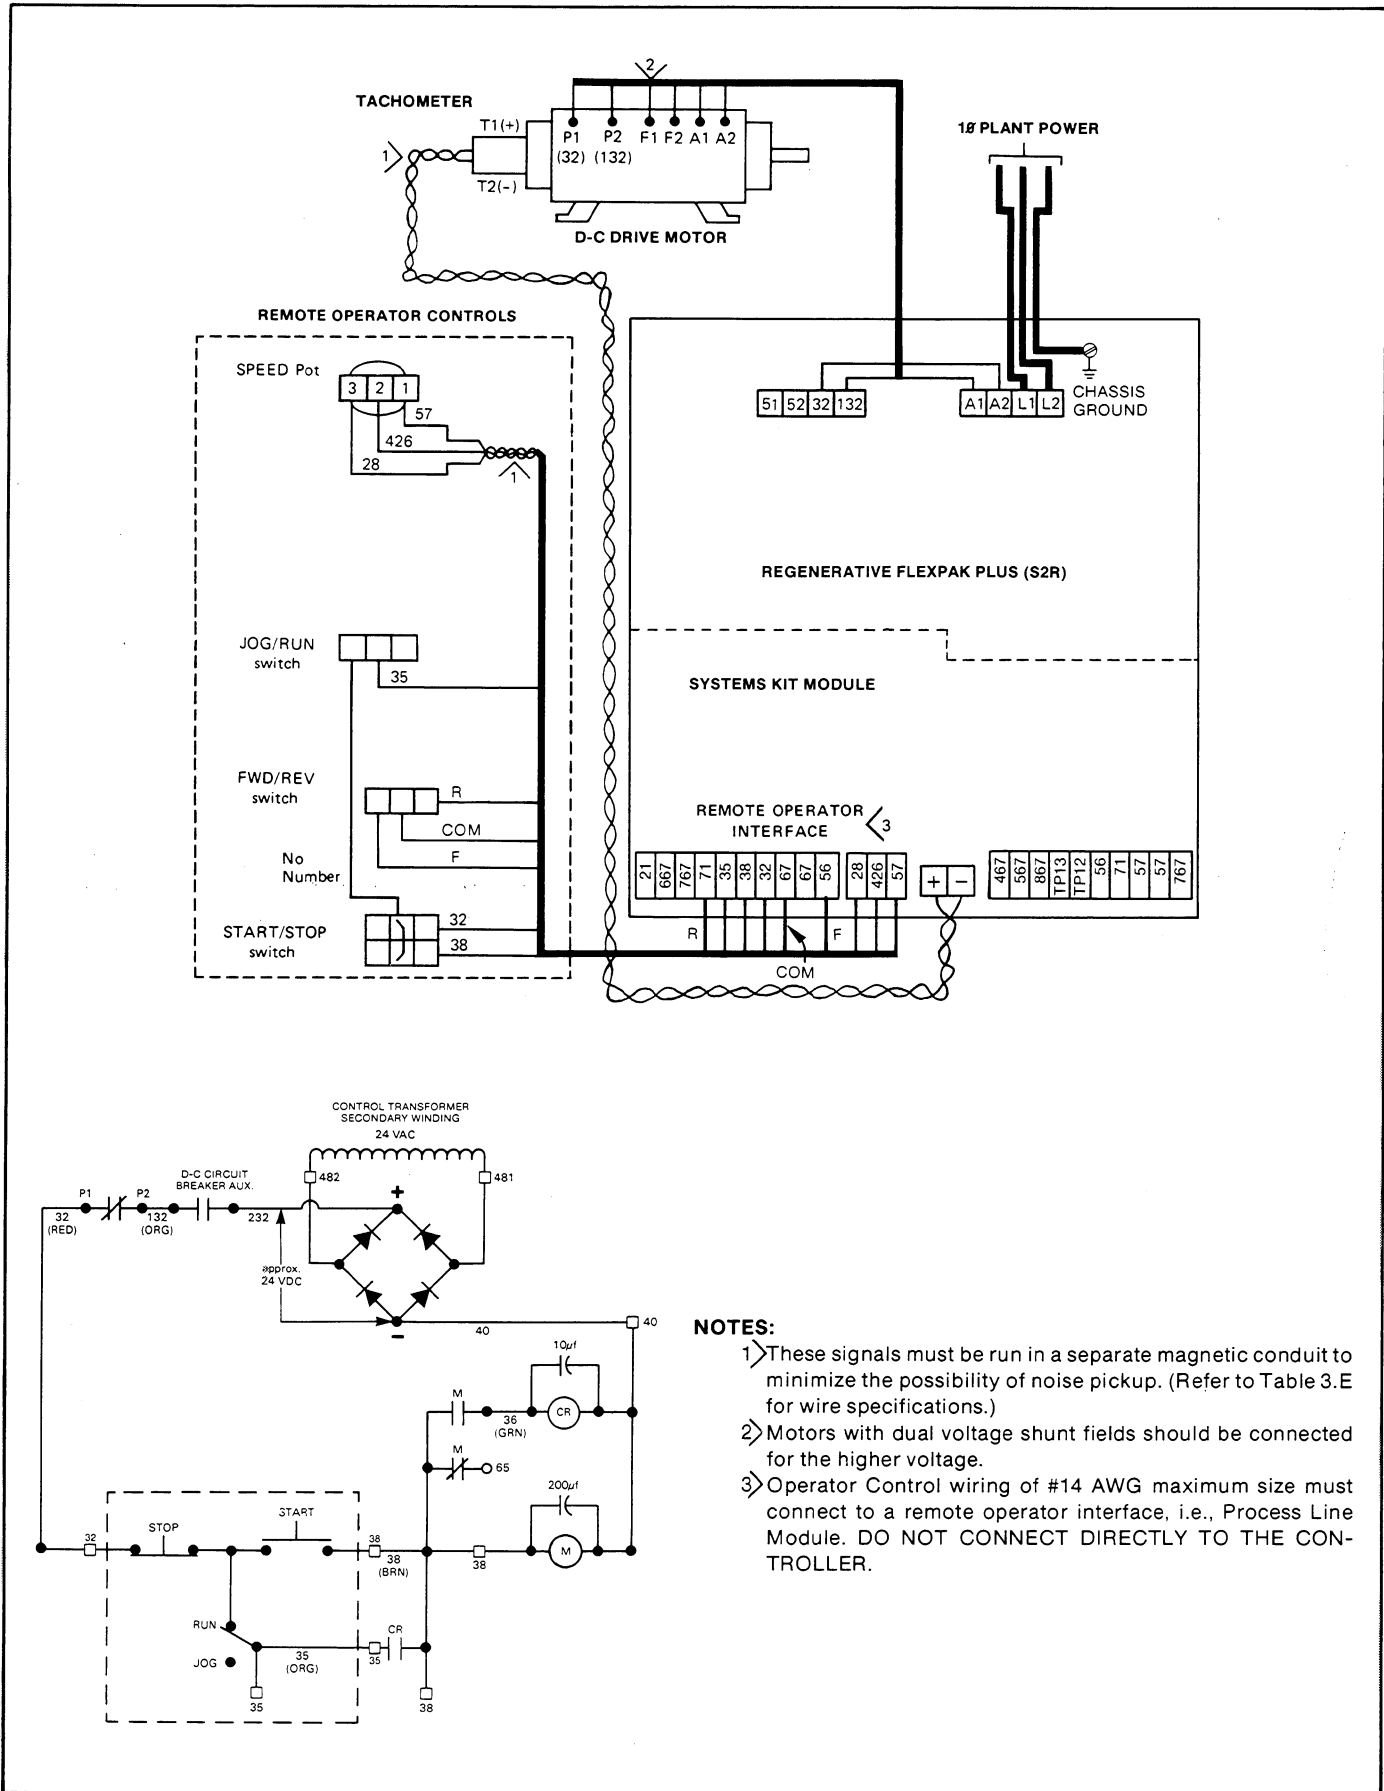

Figure 3.4. System connection diagram.
3.3 Power Wiring — This Paragraph briefly outlines the procedures to be followed when wiring A-C power supply lines to the controller and D-C control circuits to the drive. A basic connection diagram is given at Figure 3.4.
All interconnecting wire should primarily be sized and installed in conformance with N.E.C., C.E.C. or local codes. Refer to the controller and motor nameplates for electrical data. Typical wire sizes and types are listed in Table 3.A as a basic guideline. Note that long cable runs may require that a larger gauge be used to avoid excessive voltage drop. Use of stranded wire is also recommended. Wire according to Figure 3.4.
Wire according to Figure 3.4 and the following procedure.